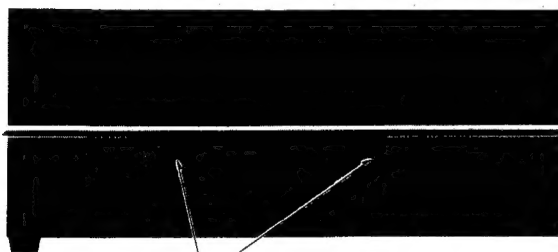

Fig. 3-1 Abb. 3-1
1. Remove 2 screws (I) in fig. 3-1.